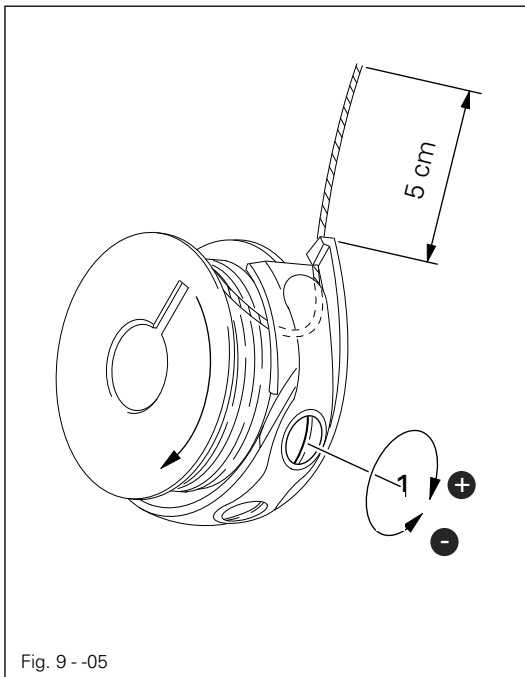

Fig. 9 - -05
- Insert the bobbin as shown in Fig. 9 - 05.